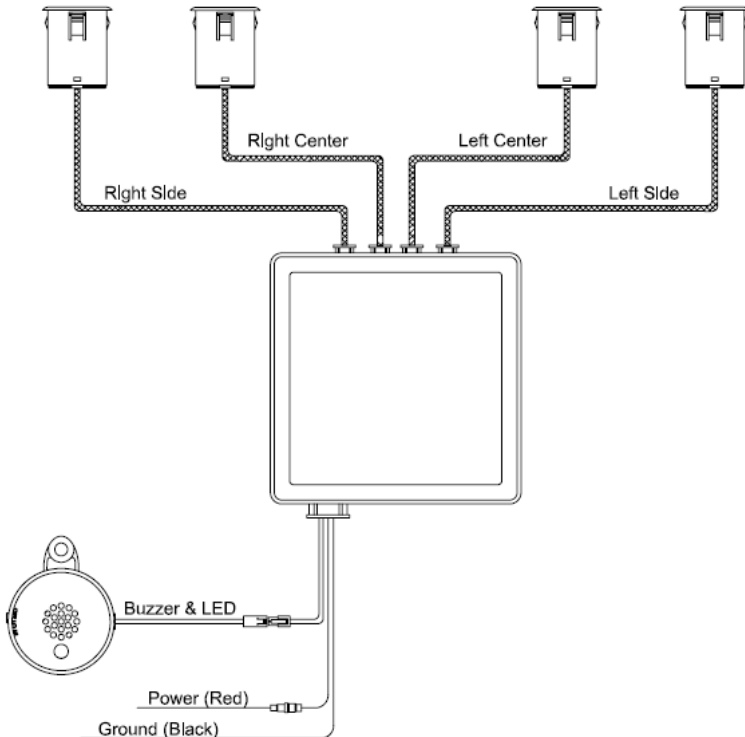

Figure 4
1. Plug the sensor wires, speaker and power harness into the control module before mounting. The sensor must be plugged into the corresponding socket (see Figure 4). The control module is pre-fitted with Velcro for mounting.